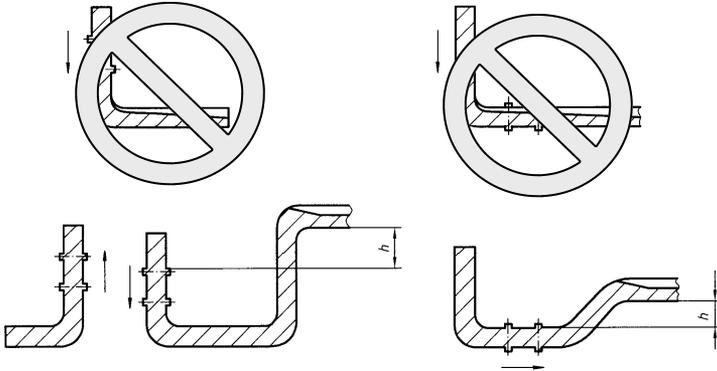

Figure 1 - Flow Meter Location
- 1. MOUNTING LOCATION** Determine the proper mounting location for the flow meter by referring to **Figure 1** below. The pipe must be completely filled with liquid while measurements are being made—avoid installations where pipes can become partially filled. (It is acceptable to have the pipe drain out when the pump or valve is turned off, so long as the pipe refills completely when the pump turns on or the valve opens.)